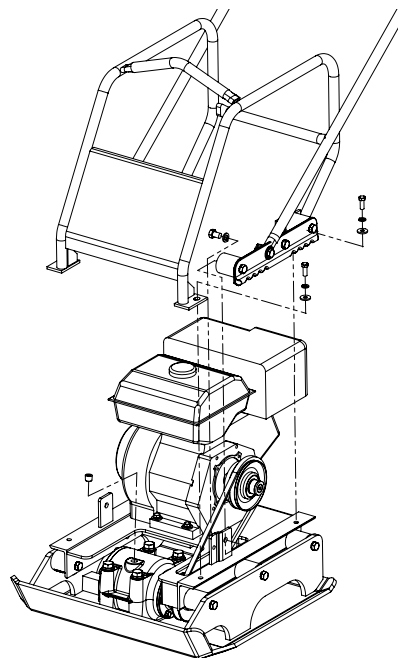

FIGURE 2
5. Remove four hex head screws (#11), lock washers (#12) and flat washers (#13). (See Figure 2)
4. Remove two hex head screws (#15) and lock washers (#16) securing front handle shock mounts to engine deck. (See Figure 2)
15. Reinstall four hex head screws (#11), lock washers (#12) and flat washers (#13), hand tight only. (See figure 2)
16. Reinstall two hex head screws (#15) and lock washers (#16) securing front handle shock mounts to engine deck. Slide roll cage forward or backward to line-up mounting holes with front handle shock mounts. (See Figure 2)